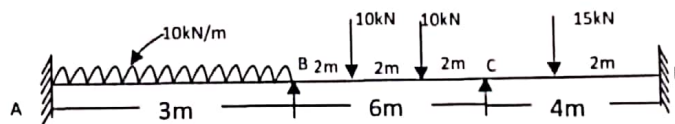

Fig. Q4
4. Analyze the continuous beam shown in Fig. Q4 using moment distribution method. Draw SFD and BMD.